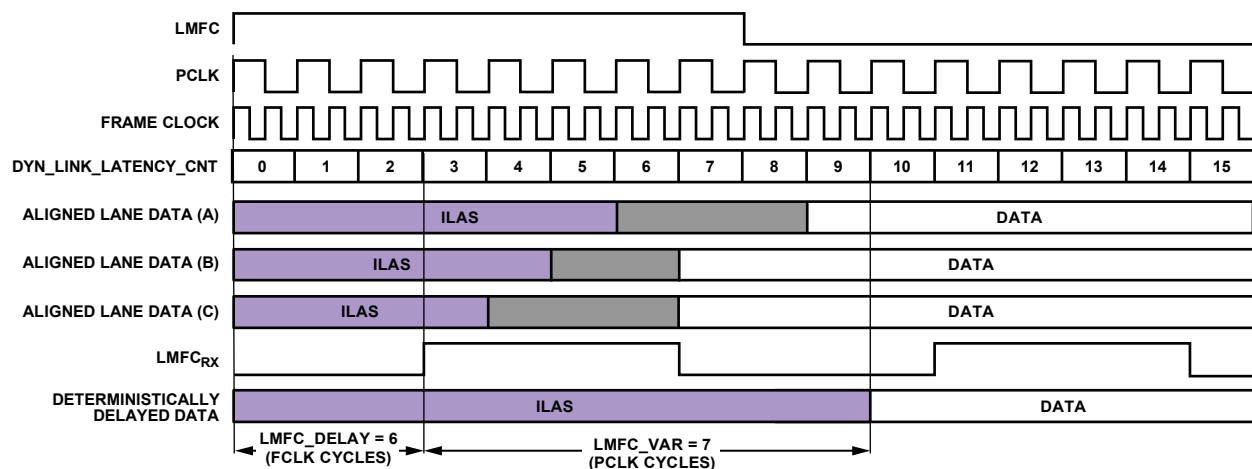

Figure 59. Multilink Synchronization Settings, Derived Method Example
Figure 59 shows how DYN\_LINK\_LATENCY\_x (Register 0x302 and Register 0x303) provides a readback showing the delay (in PClock cycles) between LMFCRX and the transition from ILAS to the first data sample. By repeatedly power cycling and taking this measurement, the minimum and maximum delays across power cycles can be determined and used to calculate LMFCVar and LMFCDel.
The example shown in Figure 59 is demonstrated in the following steps according to the procedure outlined in the Without Known Delays section. Note that this example is in Subclass 1 to achieve deterministic latency, which has a PClockFactor (frame clock rate/PClockRate) of 2 and uses K = 16; therefore, PClocksPerMF = 8.
1. In Figure 59, for Link A, Link B, and Link C, the system containing the AD9135/AD9136 (including the transmitter) is power cycled and configured 20 times. The AD9135/AD9136 are configured as described in the Device Setup Guide. Because the point of this exercise is to determine LMFCDel and LMFCVar, the LMFCDel is programmed to 0 and DYN\_LINK\_LATENCY\_x is read from Register 0x302 and Register 0x303 for Link 0 and
Link 1, respectively. The variation in the link latency over the 20 runs is shown in Figure 59 in gray.